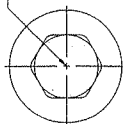

FIGURE 2.
6. THE LENGTH OF THE ANCHOR IS INDICATED BY THE LENGTH ID HEAD STAMP. SEE FIGURE 2 AND TABLE 3.